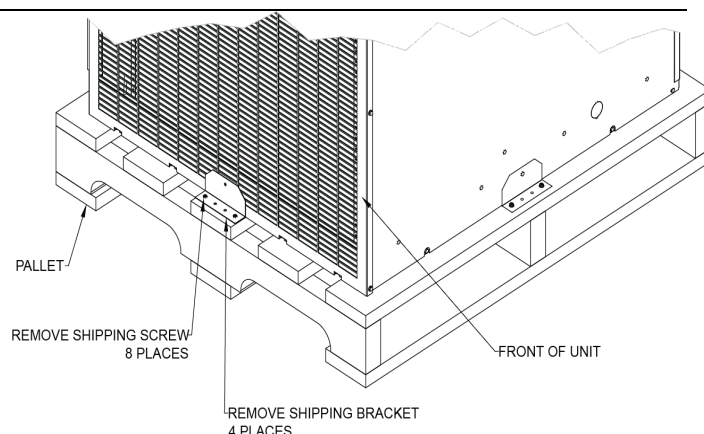
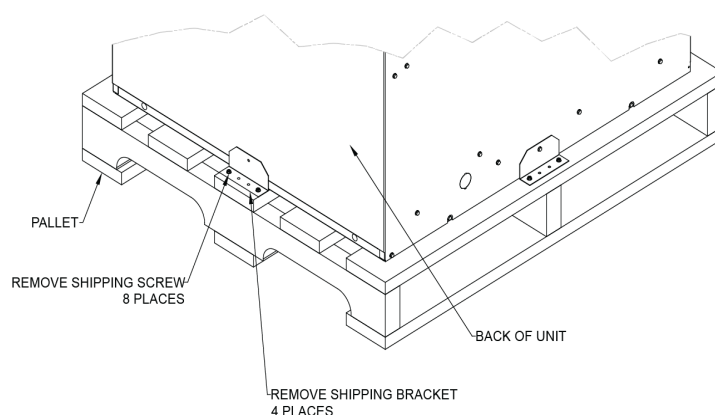

Figure 3 Standard Packaging With Bracket- Front View
Figure 4 Standard Packaging With Brackets - Back View
4. Ensure that the shipping brackets and screws are removed from the chassis section. Refer to **FIGURE 3-Standard Packaging with Brackets – Front View** & **FIGURE 4 – Standard Packaging with Brackets – Back View** for more information.
- a. Check that the gas manifold is firmly in place on the burner box and secured with the provided screws (4).